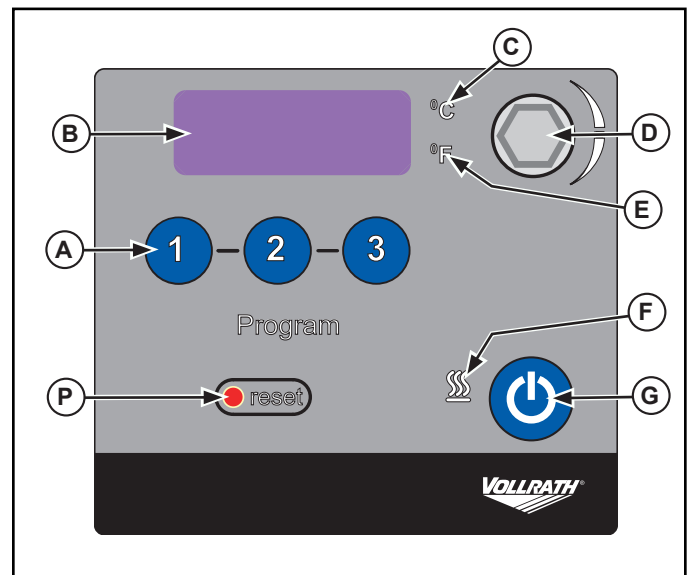

Figure 1. Front of Control Panel.
5. Set the pump speed switch (I) to the desired setting.
6. Press the controller button On/Off button (G). See Figure 1.
2. Press and hold the "2" preset temperature (A) while switching the power switch (J) to the "ON" position. See Figures 1 and 2.
2. Press and hold the "3" preset temperature (A) while switching the power switch (J) to the "ON" position. See Figures 1 and 2.
desired preset temperature (A) button, 1, 2, or 3. A decimal on the display (B) begins to blink and recalls the previous setting. See Figure 1.
2. Rotate the select/set knob (D) until the desired temperature is displayed. Once the desired setting is reached press the select/set knob (D) a second time. Press the desired preset temperature (A) button to save the temperature to that button.
1. Press and hold the select/set knob (D) until display (B) shows "LLo" (about 10 seconds) then let go. See Figure 1. When locked, the setpoint decimal point will not flash.
2. Press and hold the select/set knob (D) again, until the display (B) shows "LLo" (about 10 seconds) then let go, to unlock the controls. Once unlocked, the display (B) will show "CAn".
Should the water level drop below the heater the safety thermostat will activate and disconnect power from the heater and pump. The display (B) will show "FLt 3". Allow to cool and press the reset button (P). See Figure 1.